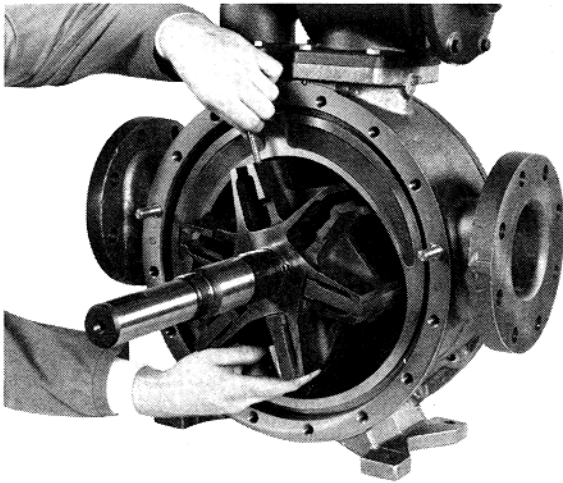

Figure 8
the rotor and shaft. To do so, partially install the rotor shaft through the disc bore, being careful not to damage the disc face. Part of the rotor should remain outside of the casing such that the three bottom vanes (rounded edge outward) can be inserted into the rotor slots and held in place while all three push rods are inserted (see Figure 8). The rotor and shaft, with the three (3) bottom vanes installed, should then be **fully** inserted into the casing. Install the remaining vanes in the top positions. (See "Vaness" for proper installation.)